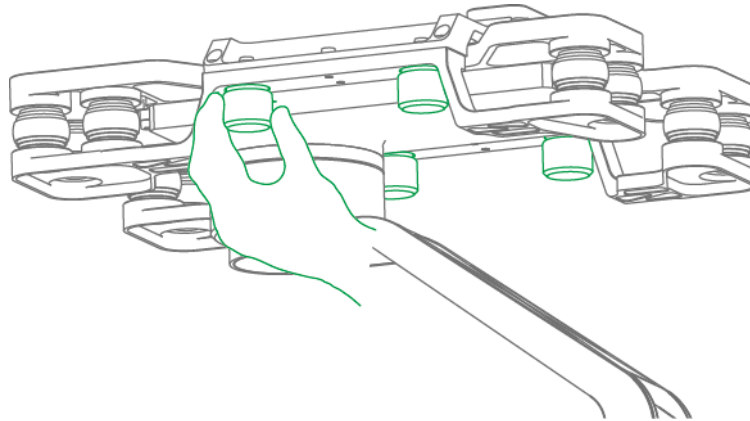

Figure 3-9
Step 1 Loosen 4 mounting screws, as shown in Figure 3-9.